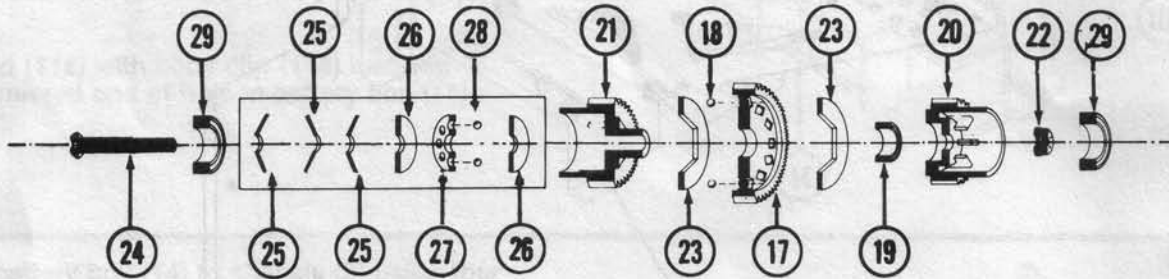

FIG. 10
5. Insert 1/4" x 3/8" bearing (19) into female half of differential (20). Fig. 10.
* NOTE: This is the only bearing that will fit over male half of differential (21). Check to see that it does. Fig 10.
6. Insert 5-40 locknut (22) into opposite side of female half of differential (20). Fig 10.
7. Place one hex thrust washer (23) onto male half of differential (21) and other hex thrust washer (23) onto female half of differential (20). Fig 10.
8. Assemble differential by placing center differential gear (17) onto male half of differential (21) followed by female half of differential (20). Set aside. female half up, until step 10. Fig 10.
9. Using 5-40 x 7/8" button head shoulder screw (24) assemble thrust assembly in the following order. Fig. 10.
10. Insert thrust assembly into male half of differential (21) from step 8 and screw into 5-40 locknut (22) in female half of differential (20). Fig.10.
11. Insert 5/16" x 1/2" bearings (29) into both sides of differential assembly. Fig. 10.